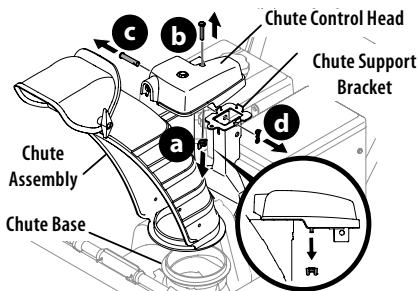

Figure 7
1. Remove wing nut (a) and hex screw (b) from chute control head and clevis pin (c) and bow-tie cotter pin (d) from chute support bracket. Position chute assembly (forward-facing) over chute base and chute support bracket (Figure 7).